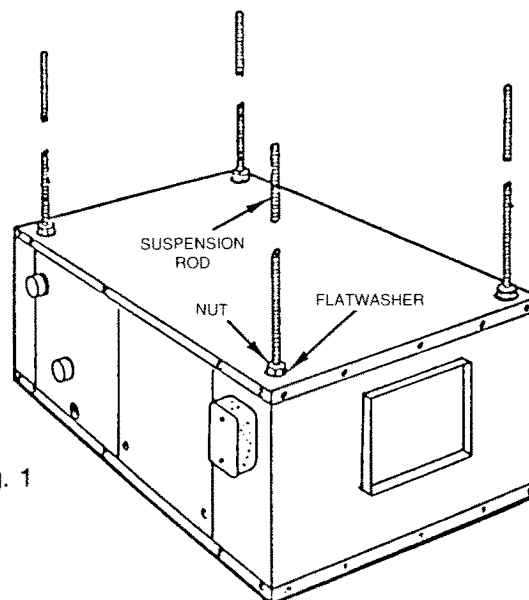

Fig. 1
4. Suspend unit or support it from floor. The 2-5 ton models have  $\frac{3}{8}$ -16 weld nuts provided in each corner of the top for suspending the unit with threaded rod. (**Fig. 1.**) The 7.5-20 ton models have  $\frac{7}{8}$ " knockouts in each corner of top and base panels for suspension rods to pass through, located 3.5" in from corners on center line. It is recommended that angle iron or unistrut be used under